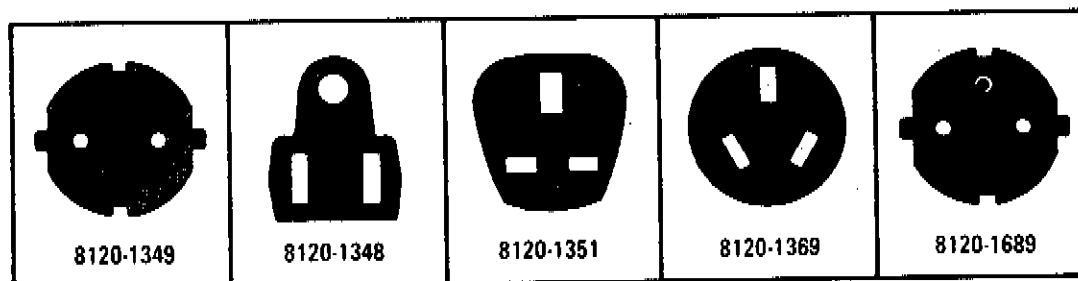

Figure 2-1. Power Cable Line Connector Labels
*See paragraph 2-15 and Figure 2-1.
2-15. Power cables are selected for shipment with each instrument; with a line connector plug to match the standard power cord for the country of destination on the purchase order. A label indicating the power cable inside is affixed to the packing case. Figure 2-1 indicates the connector plugs and the HP part numbers for the various available power cables.